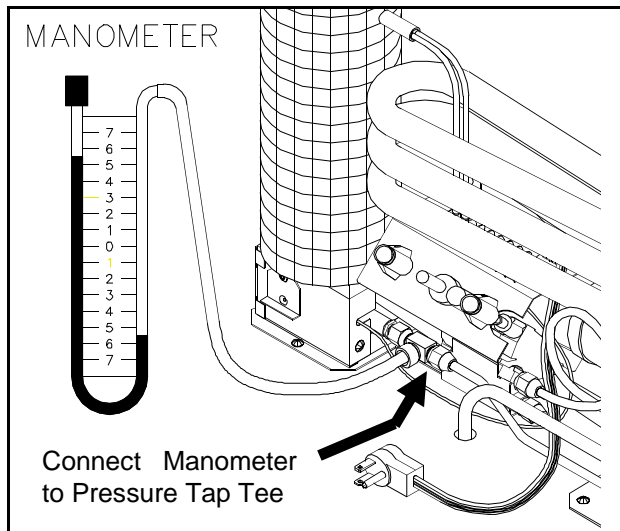

Figure 2
3. The power source is at the correct 10.5 - 11 inches water column for gas at the refrigerator's pressure tap (Figure 2) and 108-132 volts AC for electric or 11.5 to 15.4 volts DC.
2. Connect a manometer to the pressure tap tee as indicated by Figure 2.